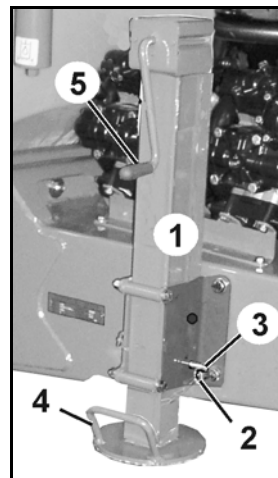

Fig. 50
- Stand raised during use or transportation (Fig. 50).
1. Loosen linchpin (Fig. 50/2).
2. Pull out pin (Fig. 50/3).
3. Raise/lower stand using handle (Fig. 50/4).
5. Using the manual crank (Fig. 50/5), continue to raise/lower the stand.